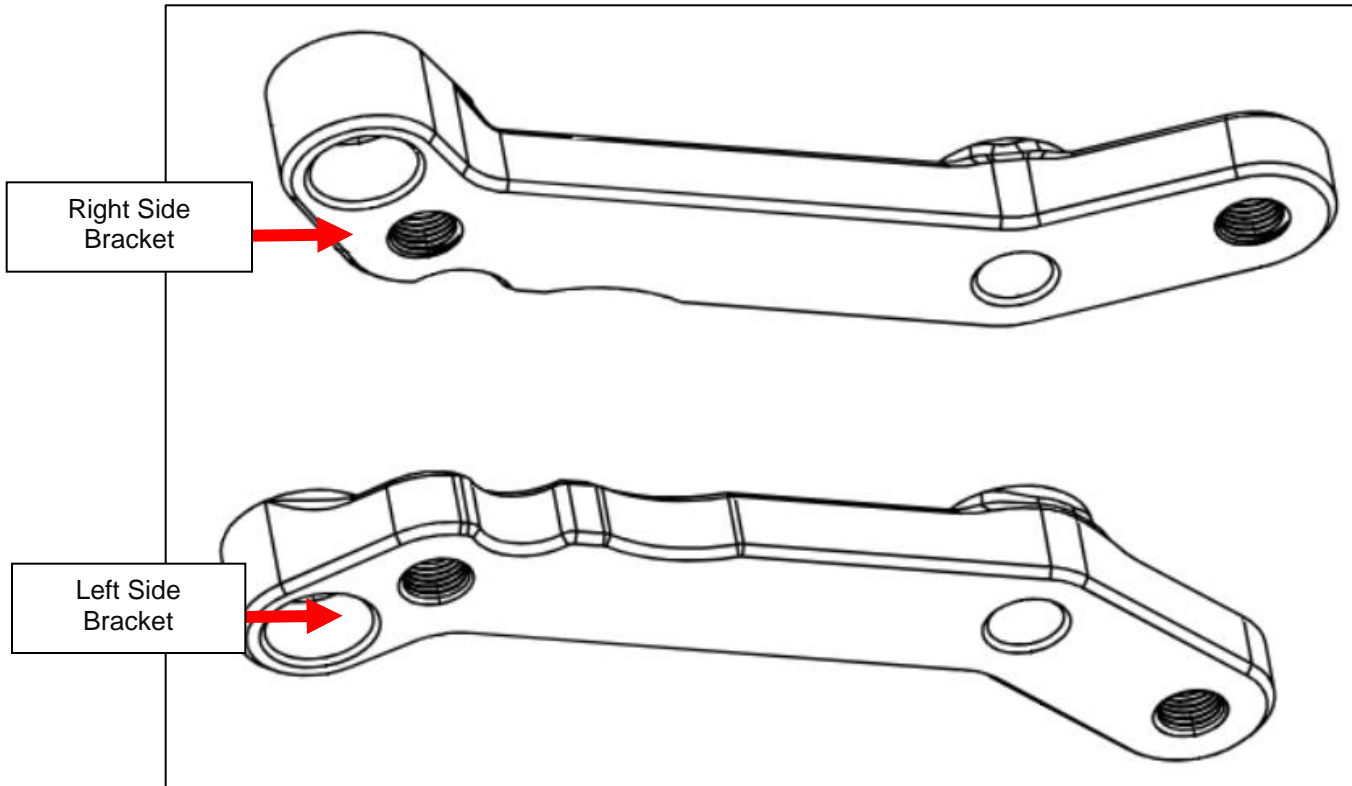

Figure 5
9. Locate the Passenger Side (Right) Caliper, the Right Side Bracket, (1) one M12 x 1.25 Flange Head Bolt, 35mm, and (1) one M12 x 1.25 Socket Head Screw, 20mm. *Figure 5.*